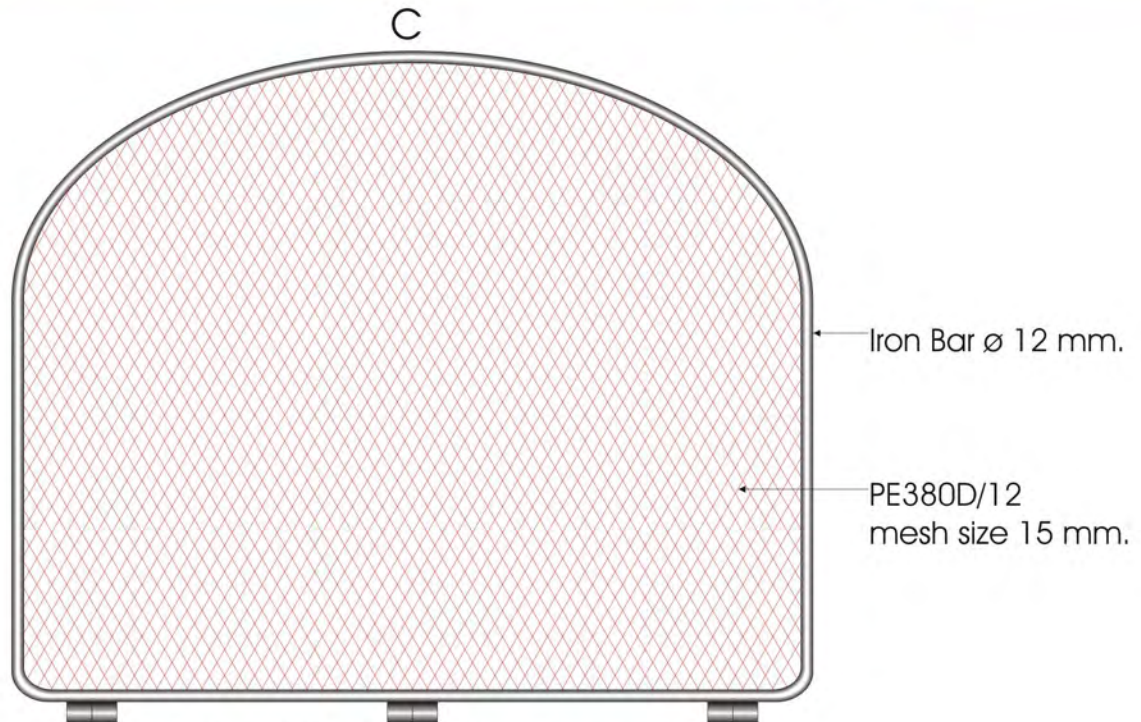

Figure 10: The back part (C) with netting attached.
2.2.3 Attach the netting to the back part (C)
Hand sew the netting to the frame of the back part (C) (see figure 10).